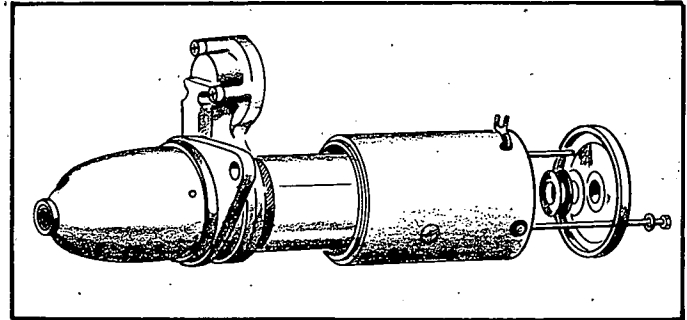

FIGURE 28. REMOVING THROUGH BOLTS
2. After removing the thru bolts, the starting motor can be divided into three parts – the front bracket, housing and rear bracket. The spacing washers shown in Figure 28 are used for adjustment of the thrust gap of the armature shaft and are placed between the rear bracket and the commutator.